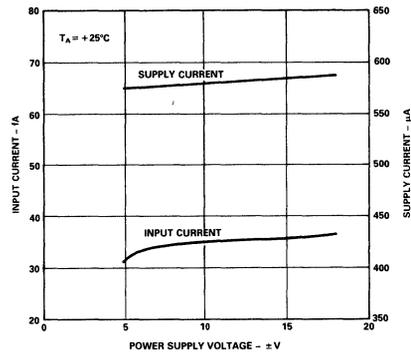

Figure 8. Input Bias Current and Supply Current vs. Supply Voltage
- The heat dissipation can be reduced initially by careful investigation of the application. First, if it is possible to reduce the required power supplies, this should be done since internal power consumption contributes the largest component of self-heating. To minimize this effect, the quiescent current of the AD515A has been reduced to less than 1mA. Figure 8 shows typical input bias current and quiescent current versus supply voltage.